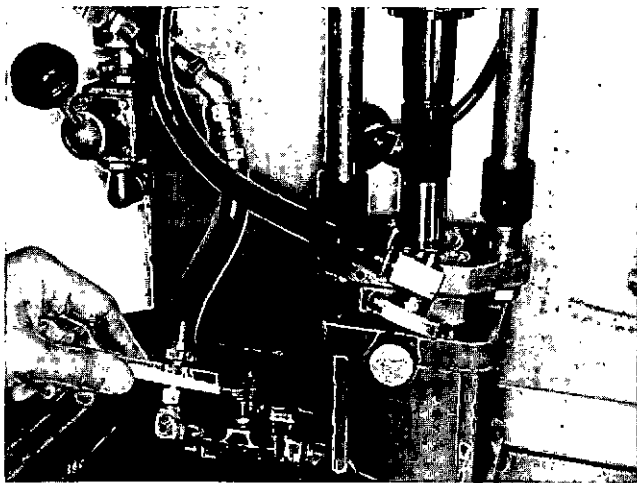

Fig. 4-50, (F60136). Close the hydraulic valve to clamp the injector
12. Check the air pressure gauge at the top of the hydraulic reservoir as originally established with the load test cell. Close the hydraulic valve to lock the injector in the clamped position. Connect the inlet and drain connectors to the injector, Fig. 4-50.